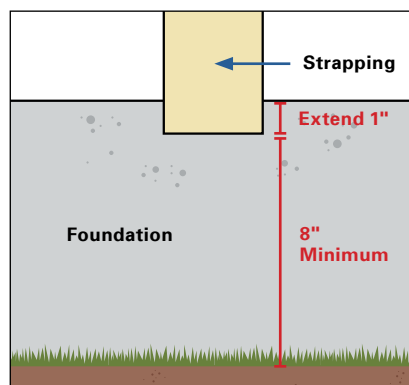

Fig. 5
- Be sure to extend strapping a minimum of 1" over the foundation. *(See Figure 5)*